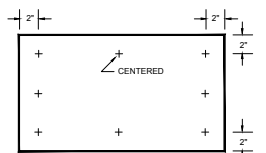

FIG.2
- 8. When using Type 2 HY-C Stove Board / Floor Protector / Wall Shield / Ember Protector as a wall shield, use the HY-C Installation Kit (Part # ULSK - sold separately) by positioning the boards against the combustible wall to be protected. Hold each board, in turn, flat against the wall in its position, and drill 1/4" holes completely through the board and into the wall behind. See hole pattern in Fig. 2.